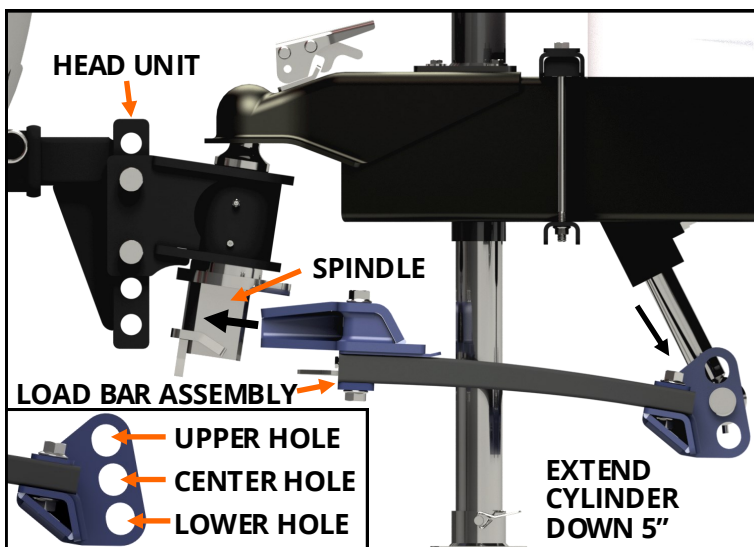

FIGURE G2: View of the driver side of the hitch.
3. **Attach the load bar assembly to the spindle.** Fully open the needle valve on the hydraulic pump. Push down on the lower cylinder mount to extend the hydraulic cylinder until it is fully extended with about 5" of chrome rod showing. Lift the load bar assembly and slide it into the bottom of the spindle of the head unit until the latch pin of the fork engages with the spindle, **see Figure G2**. If the fork does not slide into the spindle far enough to engage the latch pin, then use the upper hole in the lower cylinder mount, **see Figure G2**.